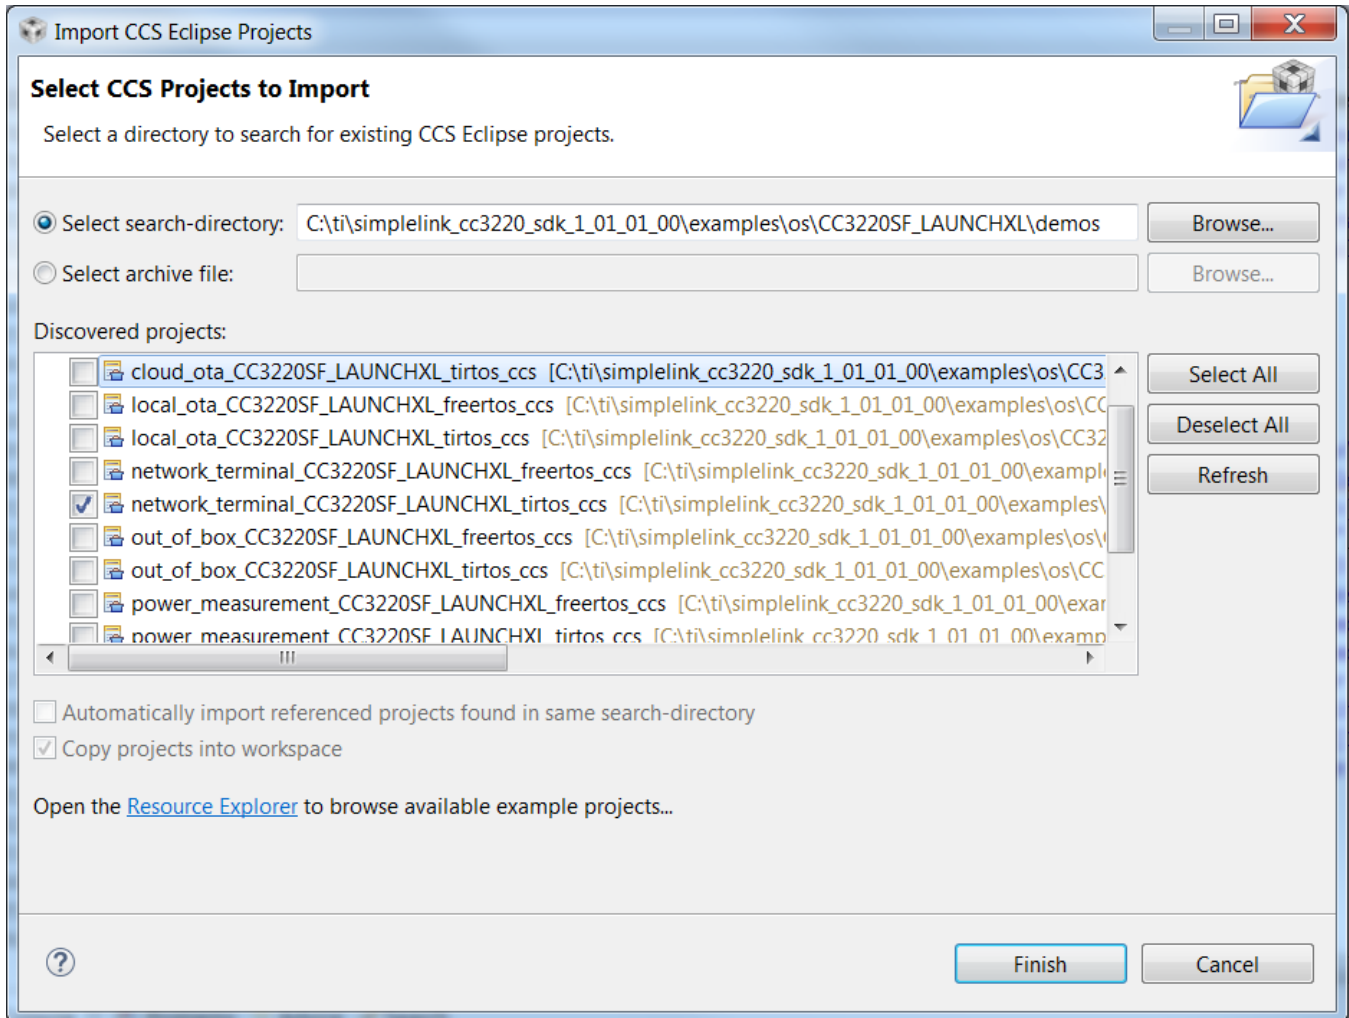

Figure 3-2. Select wlan_station Projects
4. Select the `network_terminal_CC3220SF_LAUNCHXL_tirtos_ccs` project and click Finish (this will automatically import also the dependent `tirtos_builds_CC3220SF_LAUNCHXL_custom_ccs` project), as shown in Figure 3-2. For any library import (such as `simplink` or `driverlib`), do not check the Copy projects into workspace checkbox. This breaks the link from the libraries to their dependencies. The network terminal project is automatically copied to the workspace.